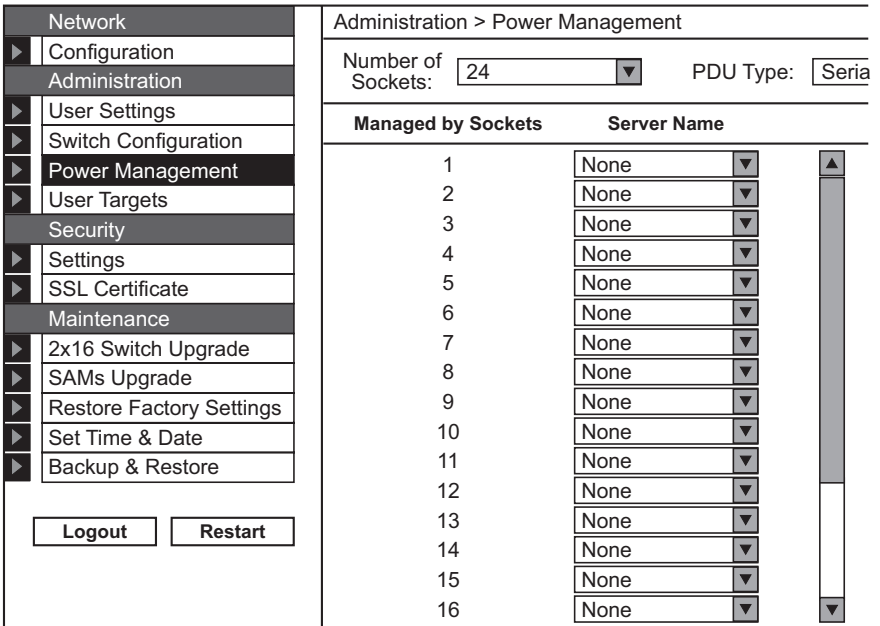

Figure 7-4. Power Management screen.
1. From the menu, click Power Management. The Power Management window appears, see Figure 7-4.